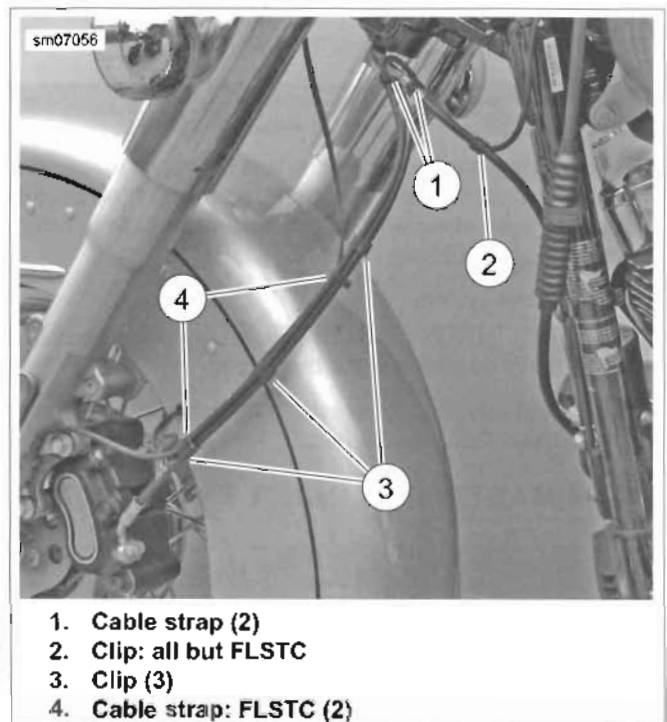

Figure 2-62. WSS Cable Rounting
1. See Figure 2-62. Disconnect clips (3) from brake line.
2. Remove cable straps (1) from brake line.
3. **All but FLSTC:** Remove clip (2).
4. **FLSTC:** Remove cable straps (4).
4. See Figure 2-62. Connect clips (3) securing WSS wire to brake line.
5. Install **new** cable straps (1) securing WSS wire to crimped ends on 90 degree fitting.
6. **All but FLSTC:** install clip (2).
7. **FLSTC:** Install **new** cable straps (4).